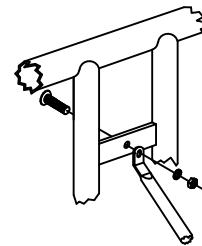

FIG. 2
Attach one end of each (D) brace to each leg, see FIG. 2, using, per each brace, one (E), two (G), one (J) and one (H).